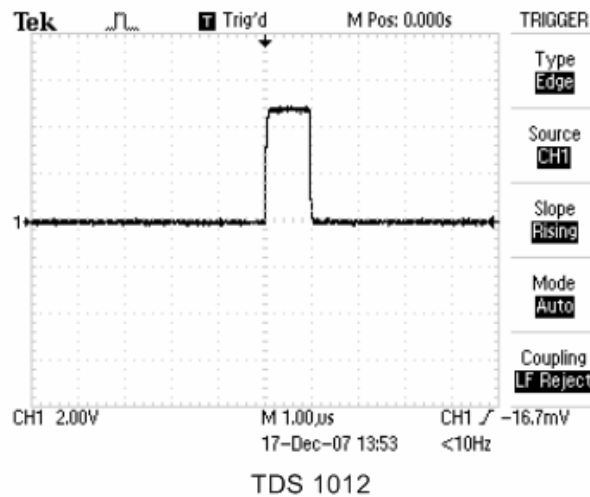
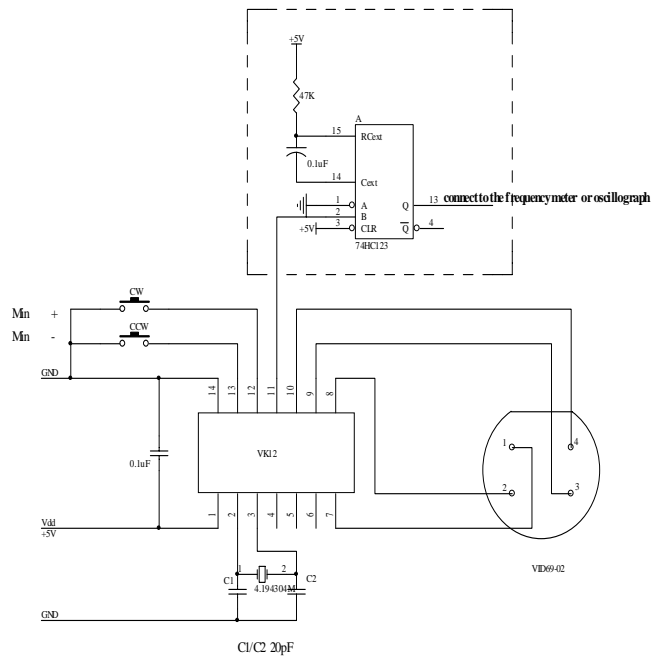

Fig 1.
Fig 2.
- (1) When using oscillator, can get such a pulse like below(Fig 1). Need to widen pulse width (Fig 2), if wanting to get the frequency of Pin11 on oscilloscope.